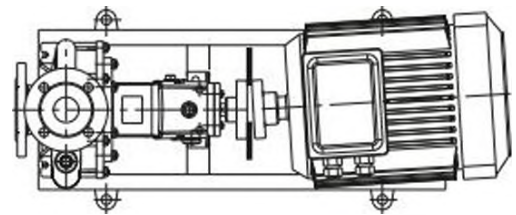

Figure 10a. Angle error in horizontal plane and adjustment
- In order to control the angular mistake, the distance between two parts of the coupling should be measured mutually on horizontal and vertical planes. The clearances measures at these four points should be equal (Figure 10a,10b).
- Adjustment mistakes may be on the horizontal and/or vertical plane. Mistakes on the vertical plane may be made by putting thin metal sheets under the pump or motor mounts and the mistakes on the horizontal plane by benefiting from the gaps in the connection holes or sliding the engine on the horizontal plane. Manner and order of the coupling adjustment is shown inthe Figures 10a, 10b, 10c and 10d, respectively.